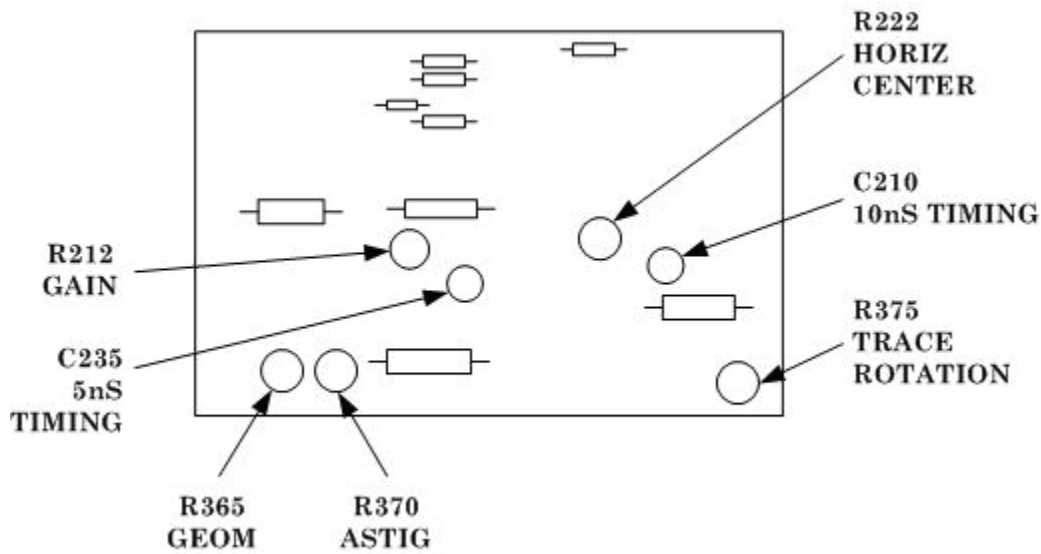

Figure 3. Horizontal circuit board (top).
(3) Adjust TI **INTENSITY** control for a normal display.
(4) Set time base **MAIN SEC/ DIV** switch to **AMP** (fully ccw) and adjust TI **FOCUS** control fully cw. If displayed spot on TI screen is not round, perform **b** below. It may be necessary to readjust **INTENSITY** control.
(5) Set time base **MAIN SEC/DIV** switch to **1 ms**.
b. Adjustments. Adjust R370 **ASTIG** (fig. 3) and TI **FOCUS** control simultaneously to obtain best defined spot on TI screen.
b. Adjustment. Adjust R375 TRACE ROTATION (fig. 3) until trace is aligned with TI center horizontal graticule line.
- (1) Press TI **POWER** switch to off.
- (2) Remove time base from TI right compartment and install in center compartment.
- (3) Remove vertical amplifier from TI left compartment and install in right compartment.
- (4) Pull TI **POWER** switch to on.
- (5) Adjust TI **FOCUS** and **INTENSITY** controls for a well defined trace that extends vertically above and below graticule area.
- (6) Adjust vertical amplifier **POSITION** control to move TI trace across entire graticule area. If trace bows or tilts greater than 0.1 division anywhere in graticule area, perform **b** below.
b. Adjustment. Adjust R365 GEOM (fig. 3) for minimum bowing or tilt of trace at left and right edges of graticule. It may be necessary to readjust R365 (fig. 3) to obtain less than 0.1 division of bowing and tilt everywhere in graticule area.
(1) Pull TI **POWER** switch to on. If a vertical trace is not displayed within ± 0.5 division of TI center vertical graticule line, perform **b** below.
b. Adjustments. Adjust R222 **HORIZ CENTER** (fig. 3) to position trace to TI center vertical graticule line.
(1) Set calibration fixture **TEST** switch to **VERT OR HORIZ GAIN** and adjust **POSITION** control to align bright center trace on TI with center vertical graticule line.
(2) If center seven traces do not coincide within ± 0.25 division of respective vertical graticule lines, perform **b** below.
b. Adjustments. Adjust R212 **GAIN** (fig. 3) for a 6 division deflection over center seven vertical graticule lines (R).